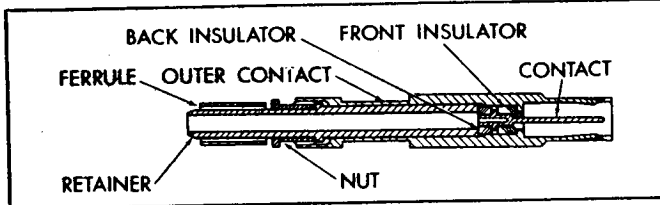

Figure 2. Contact Part Identification.
6. Position threaded nut (figure 2) on inner retainer. Then slide the retainer and nut assembly over cable core and under the braid as shown in C of figure 1. Rear portion of retainer should slide under braid far enough so there is approximately 1/64 inch gap between braid end and nut. Slide ferrule forward over the cable and crimp braid between ferrule and retainer using the applicable tool from Table I. Make certain nut turns freely after crimping.
8. Install back insulator (figure 2) over back end of inner contact. See E of figure 1.